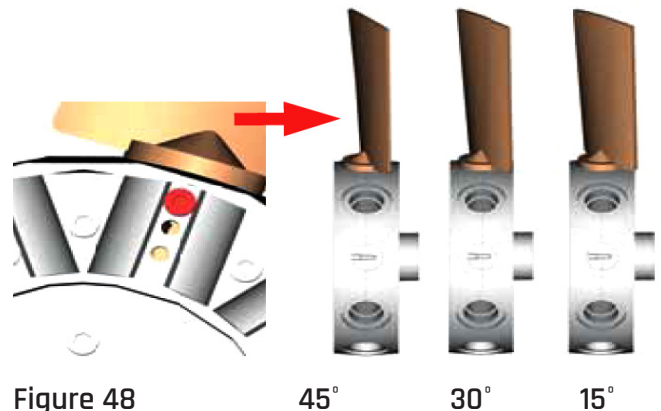

Figure 48
4. The hole under each blade corresponds to a blade angle of 45°, 30°, 15° from top to bottom. (Figure 48)